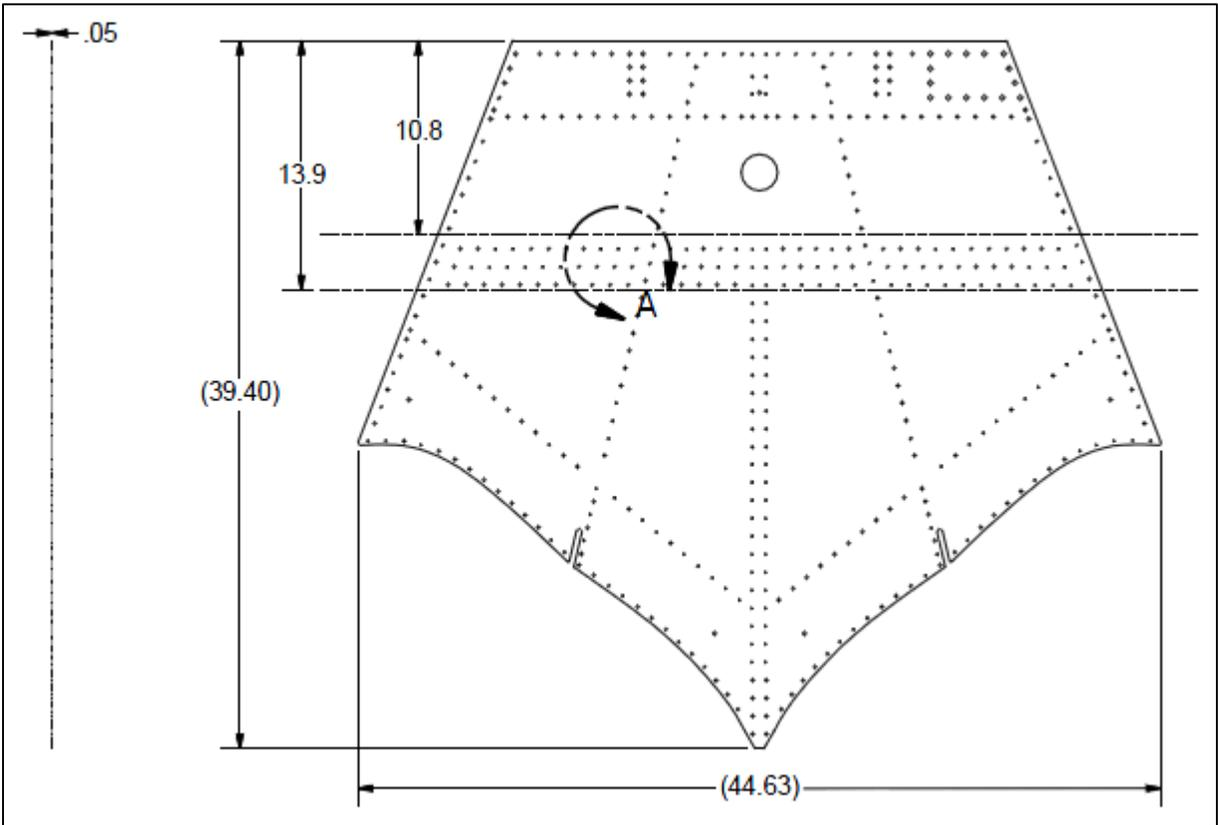
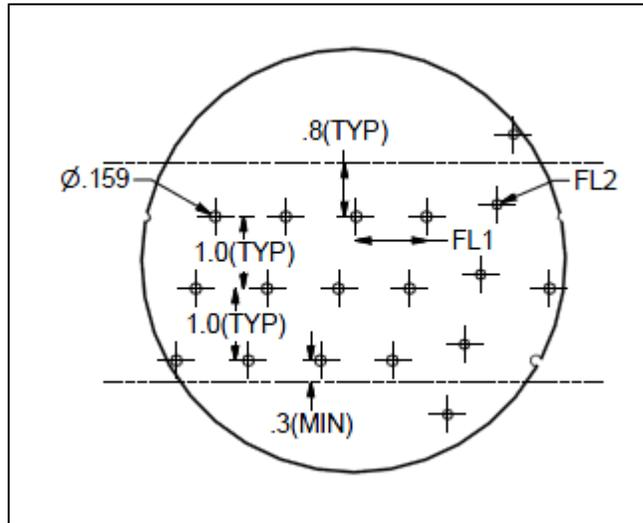

Figure 1 – Bulkhead Splice Repair
Figure 2 – Bulkhead Splice Repair – Detail A
4. Remove the damaged upper portion of the bulkhead body in location indicated by Figure 1.
5. Replace upper section of bulkhead with an upper portion from a new bulkhead body (Wipaire part number 13A01150-052), creating an overlap splice with the original lower section of the bulkhead body as indicated in Figure 1.
7. Install an additional 96 MS20470AD5 rivets (length as required) in the splice of the bulkhead body as indicated in Figure 1: 11 columns of 3 between the side skin attach arm and the sister keel attach angle on both sides of the bulkhead body; and 5 columns of 3 between the sister keel attach angle and the center “T” section, on both sides of the bulkhead. For the additional 96 rivets, the spacing is defined in Figure 2.
Notes (Figure 1 and Figure 2):